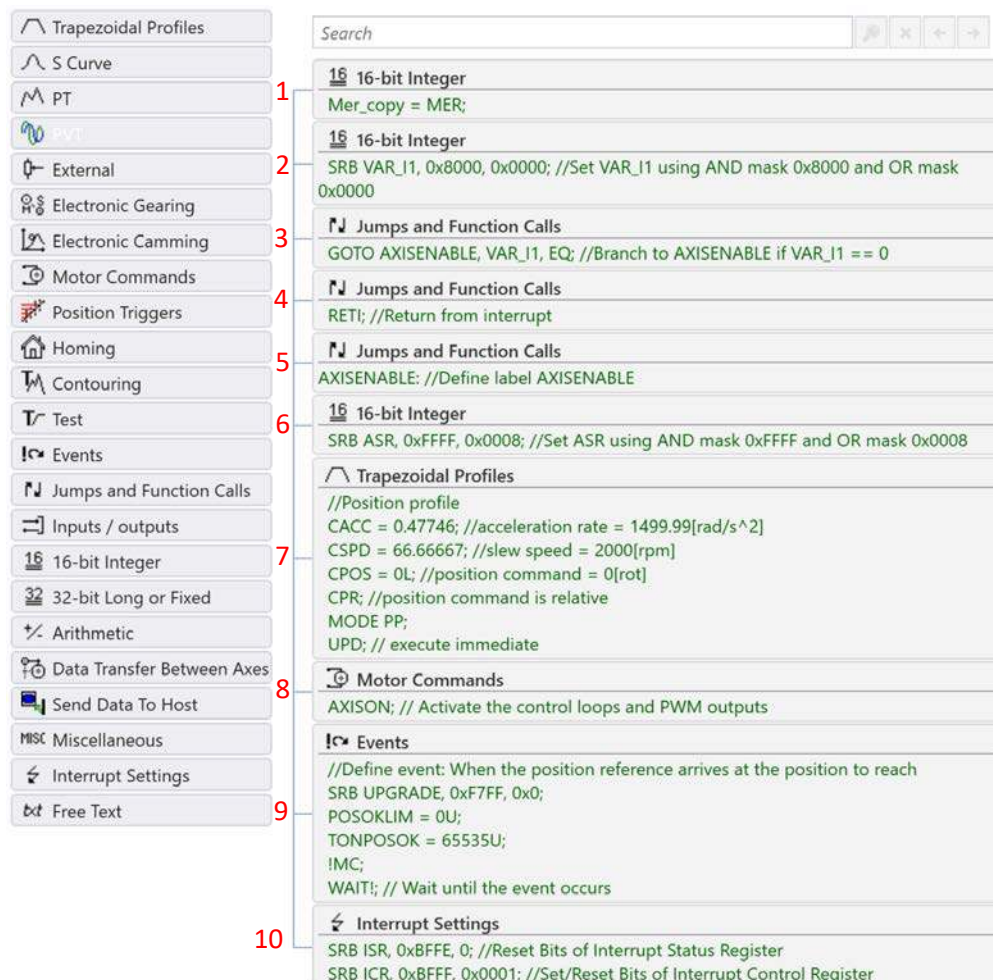

Figure 20 - Entire code for the custom "int0".
- The “Assignment and Data Transfer – 16-bit Integer Data” dialogue (Figure 20 – step 1 and step 2) allows various manipulations of 16-bit integer variable/parameter/register.
- b) The “Jumps and Function Calls” dialogue (Figure 20 – step 3 and step 4) was used to generate the “GOTO AXISENABLE;” and “RETI;” instructions that makes the program to jump to the “AXISENABLE;” label, if MER.15 is 1 or to return from the interrupt (“RETI;”) if MER.15 is 0.
The “AXISENABLE” label was also created using the “Jumps and Function Calls” dialogue (Figure 20 – step 5).
- c) The “Assignment and Data Transfer – 16-bit Integer Data” dialogue (Figure 20 – step 6) was used again, to set the bit 3 from the ASR register with “AND” and “OR” mask. This will make the target speed 0, when the next position profile (with TUM0 - the reference is generated starting from the actual value of load/motor position and speed) is executed. The purpose of this instruction is to prevent the motor from moving to the last imposed position, when the drive power stage is reactivated.
- d) The “Motion – Trapezoidal Profiles” dialog (Figure 20 – step 7) was used to insert a relative position profile, with “TUM0” and a position increment of 0 rot. This way the motor will hold the current position once the axis is re-enabled.
- e) The “Motion - Motor Commands” dialogue (Figure 20 – step 8) is used to reactivate the drive PWM outputs and allow the position profile above to start being executed.